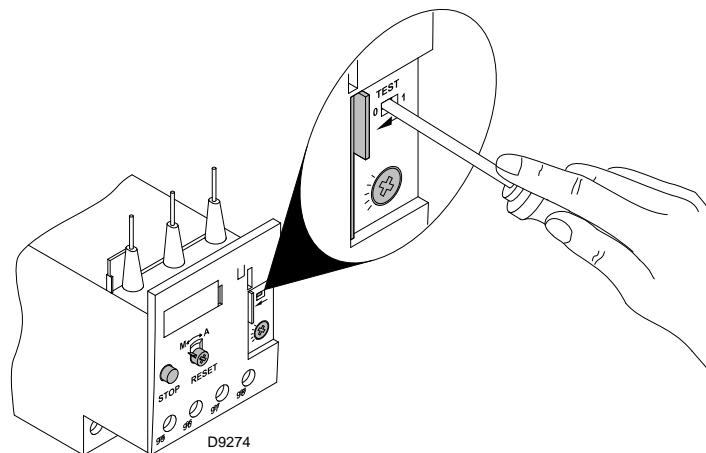

Fig. 25
- To test the thermal relay, insert a screwdriver in the window "TEST" (Fig. 25) and move it in the sense of the arrow (towards right).